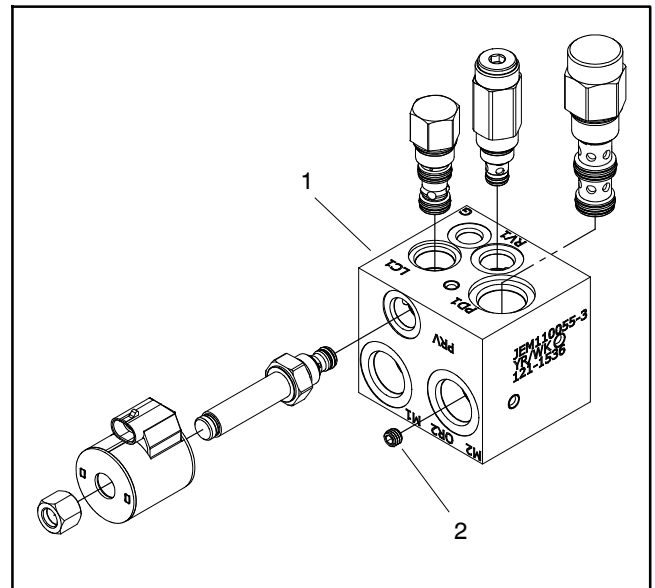

Figure 101
The manifolds for the three (3) cutting deck sections are very similar. The front and right side PTO manifolds are identical. The left side PTO manifold uses the same cartridges and plugs as the front and right side manifolds but also includes an additional orifice that threads into the manifold OR2 port (Fig. 101). **NOTE:** When servicing the PTO manifolds, **DO NOT** interchange parts from one manifold to another.